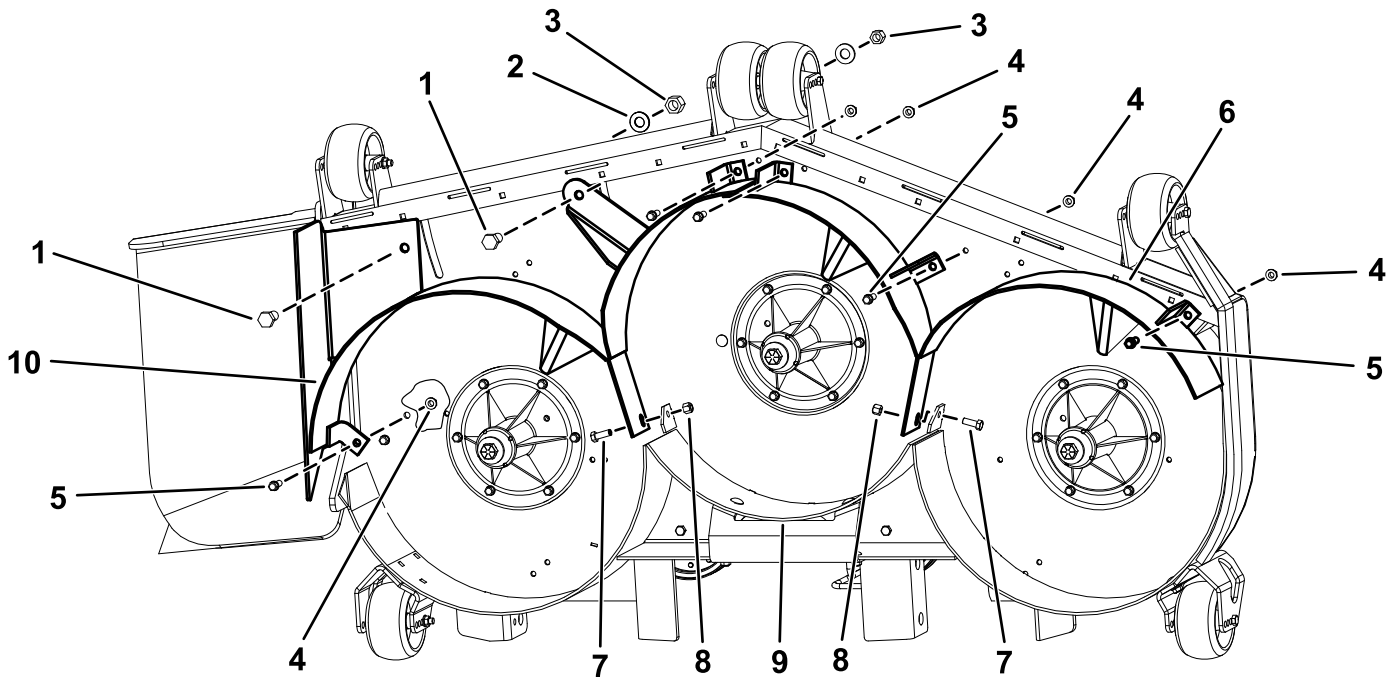

Figure 3
1. Install the right baffle into the deck (Figure 3).
2. Loosely secure the right baffle to the top of the deck using 2 bolts (1/2 x 1 inch), 2 tapping bolts (3/8 x 1 inch), 2 nuts (1/2 inch), 2 washers (1/2 inch), and 2 flange nuts (3/8 inch) as shown in Figure 3.
3. Loosely secure the right baffle to the rear baffle using 1 bolt (3/8 x 1 inch) and 1 nut (3/8 inch) as shown in Figure 3.
4. Install the left baffle into the deck (Figure 3).
5. Loosely secure the left baffle to the top of the deck using 3 tapping bolts (3/8 x 1 inch) and 3 flange nuts (3/8 inch) as shown in Figure 3.
6. Loosely secure the left baffle to the rear baffle using 1 bolt (3/8 x 1 inch) and 1 nut (3/8 inch) as shown in Figure 3.